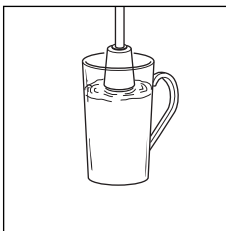

fig. 16
4. Position the container with the milk in it under the milk frother (fig 16).